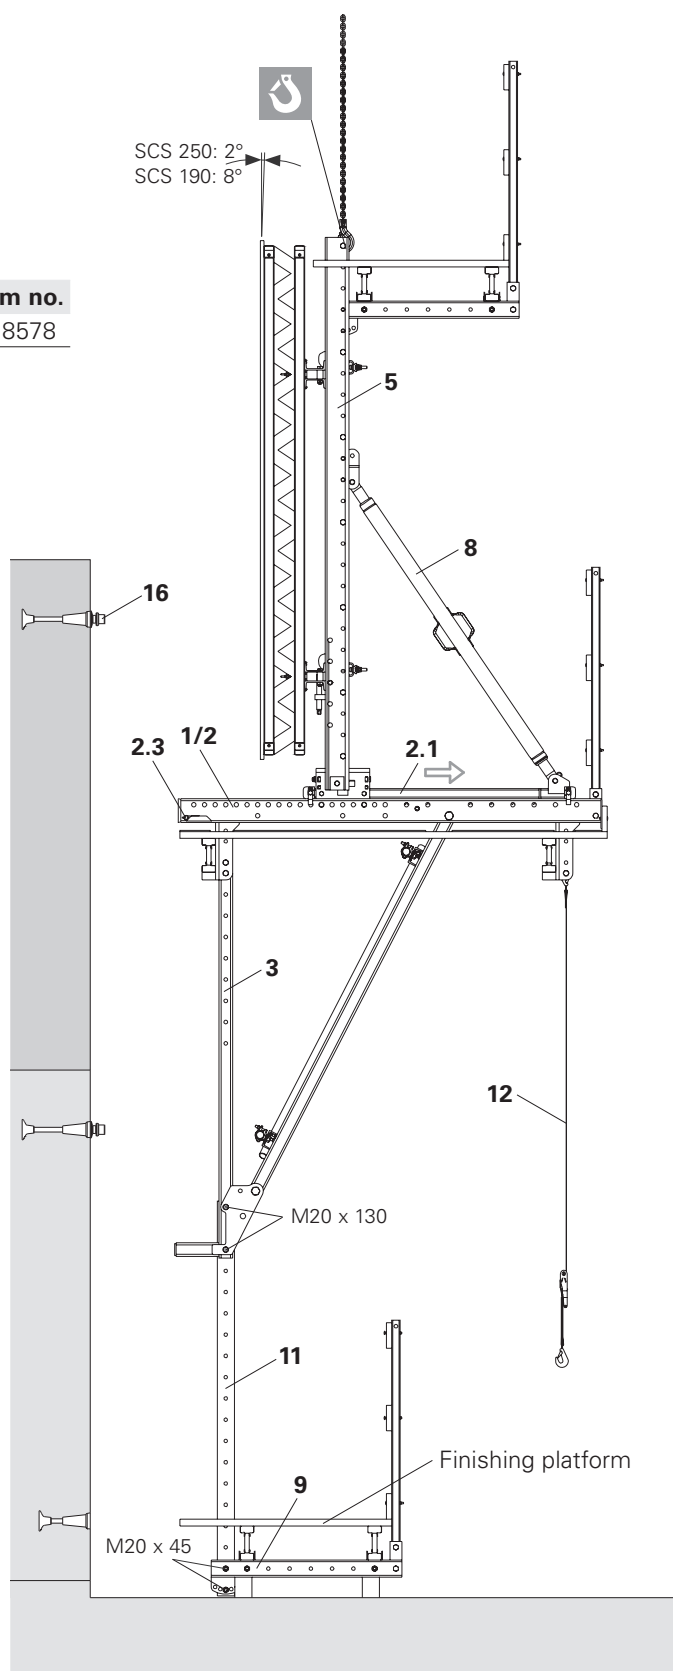

Fig. A2.08
2. Fix Platform Post (11) to the Vertical Strut (3) using Bolts M20 x 130. (Fig. A2.08)